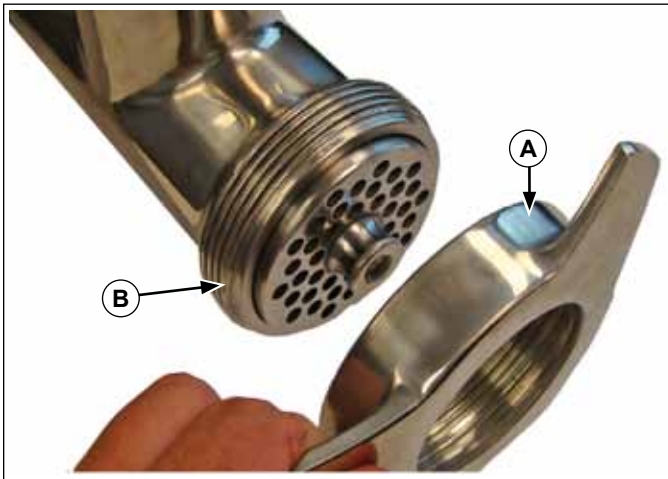

Figure 2. Coupling Cover and Grinder Chamber
2. Unscrew and remove the coupling cover nut (A) from the grinder chamber (B). See Figure 2.
8. If a sausage filler is to be used, place it between the coupling cover (A) and the grinder chamber (B). See Figure 2.
9. Thread the coupling cover (A) onto the grinder chamber (B) and tighten securely.